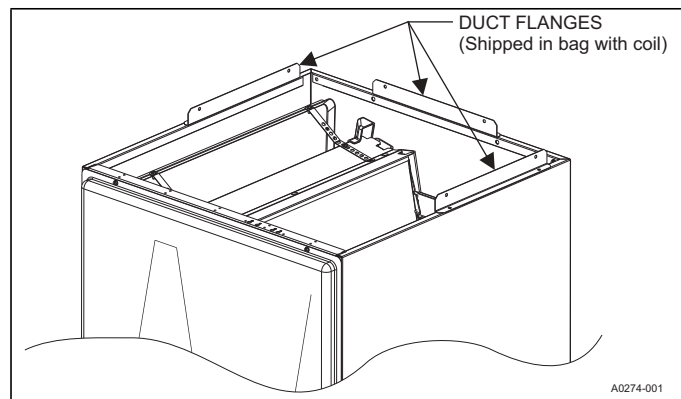

FIGURE 4: Duct Flanges - Coils CF / CM
Three duct flanges are provided to attach ductwork to the coil. The flanges are included in the parts bag along with three tie plates. Tie plates are used to secure the coil to the furnace or to the modular air handler as shown in Figures 4 - 8. Using the screws included in the parts bag, duct flanges are attached as shown in Figure 4 (to secure the duct to the coil). If the flanges are not used, they may be discarded.
5. Place the three duct flanges (from bag with coil) in mounting positions of the upper air flow opening on the coil, and secure with screws from the bag as shown in Figure 4.
4. Install the three duct flanges with screws (from bag with coil) in positions shown in Figure 4.